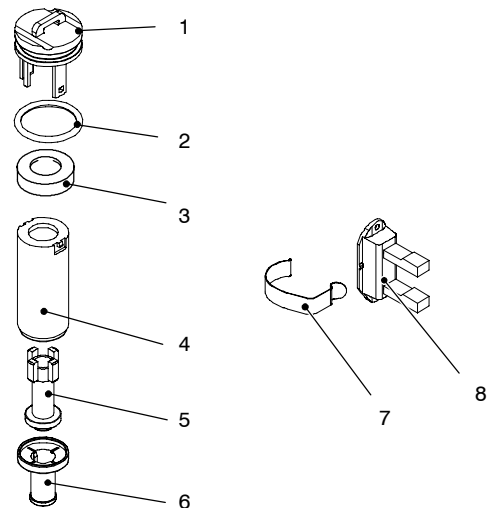

Fig. 68
### 14.2 Description and location of parts (Fig. 68)
- 3 To remove the filter from the flow switch group separate the filter 6 from the body 4 (Fig. 68) by levering it.